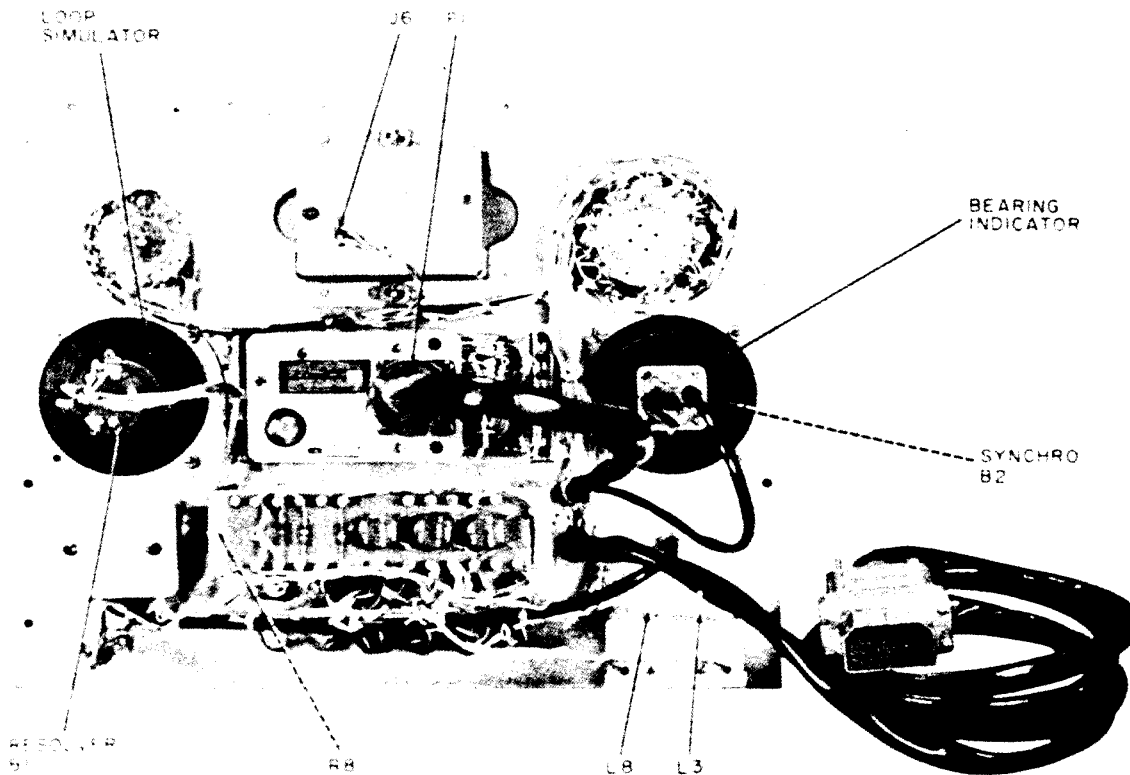

Figure 5. Direction Finder Set Test Set AN/ARM-93, parts location.
(f) Adjust potentiometer R8 (see fig 5 for location) in the unit under test until multimeter indicates 26 volts ac. (R)